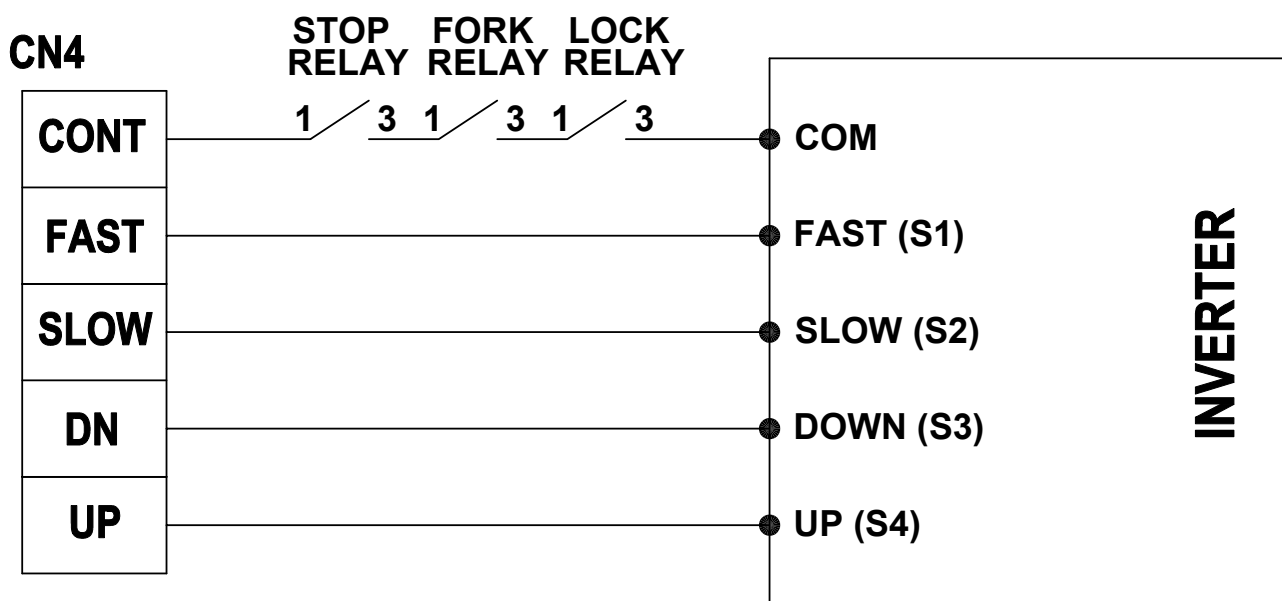

Figure 14.0 - Inverter System Connections
The terminals of the Inverter System are connected as illustrated in Figure 14.0.
- The motor speed and direction signals connector (CN4) are connected as illustrated in Figure 14.0.